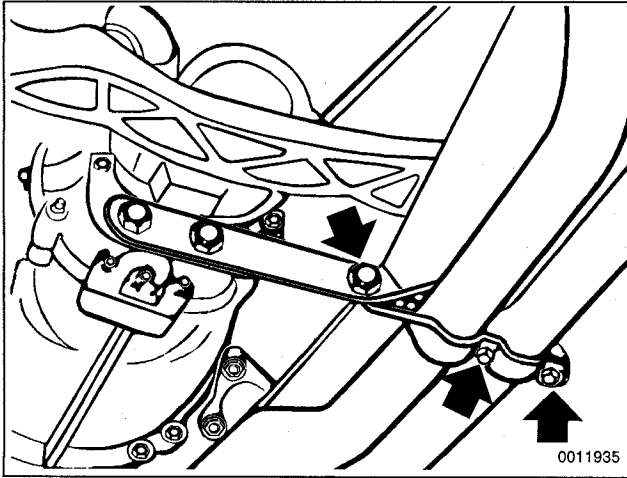

Fig. 6. Exhaust system support bracket on 6-cylinder engine. Remove bolts (arrows) to separate from exhaust pipe.
5. Disconnect exhaust support bracket assembly from transmission. See Fig. 6.